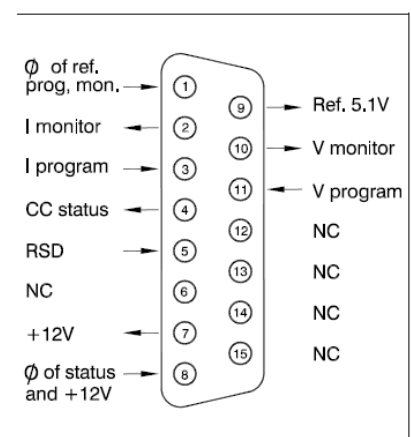

fig. 2 - 8 Connections analog programming connector
- To avoid overheating the output capacitors, the AC component of the load current should be limited (fig. 2 - 9).